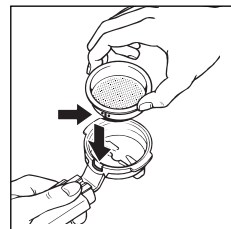

fig. 7
1. After preheating the appliance, the machine is ready to be used. Insert the ground coffee filter with crema enhancer into the filter holder, making sure the projection is correctly inserted in the slot as shown in as shown in fig. 7. For appliances with two filters, use the smallest for one coffee and the largest for two coffees.
3. Place the small I coffee or pod filter in the filter holder, making sure the projection is correctly inserted in the slot as shown in fig. 7